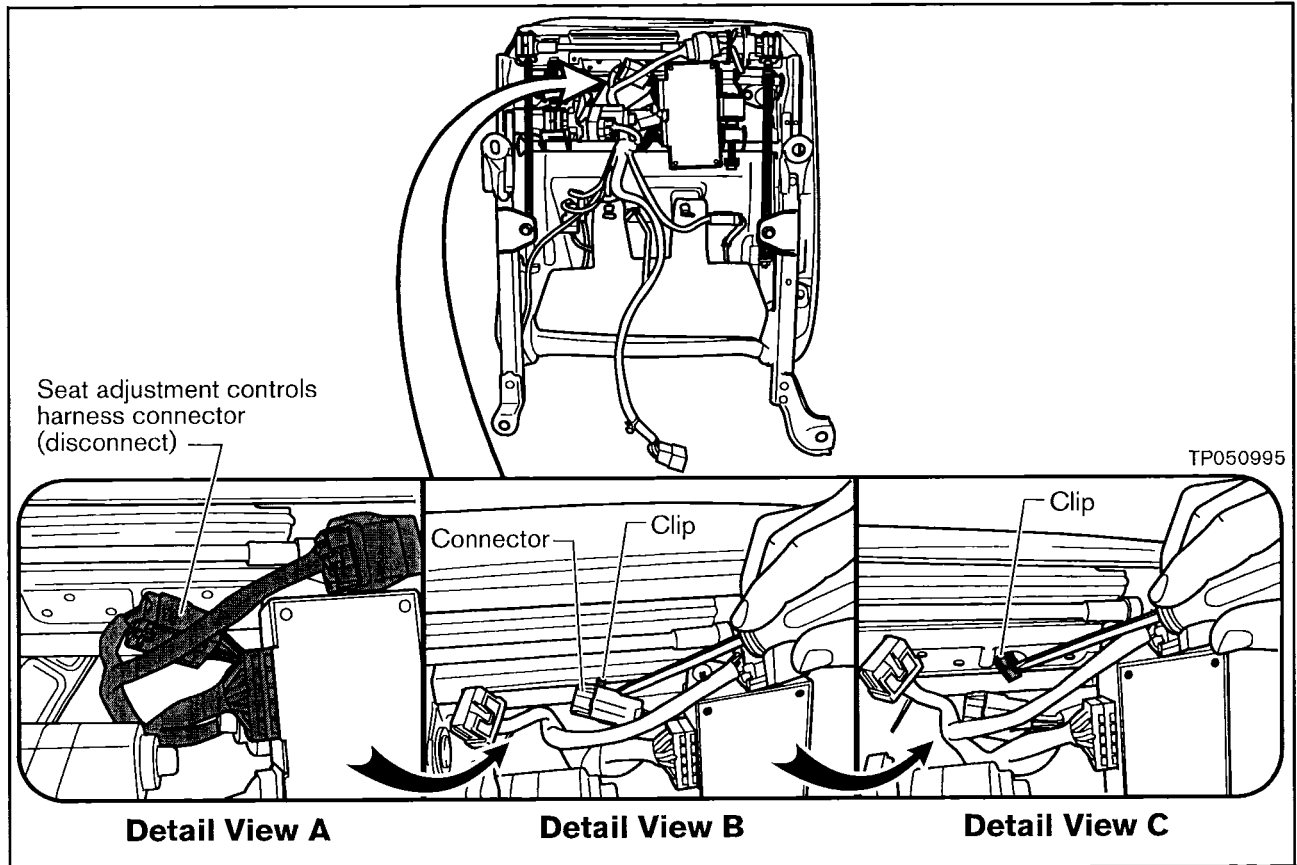

Figure 7
- a. First, disconnect the seat adjustment controls harness connector (see Figure 7, Detail View A).
- b. Second, pry the connector off of the clip that secures it to the metal seat pan (see Figure 7, Detail View B).
- c. Then, remove the clip from the metal seat pan (see Figure 7, Detail View C).
- The seat adjustment controls harness connector is reconnected and secured to the lower cushion metal seat pan with a new connector clip. Refer to Figure 7, "Detail View A" for the location of this connector.